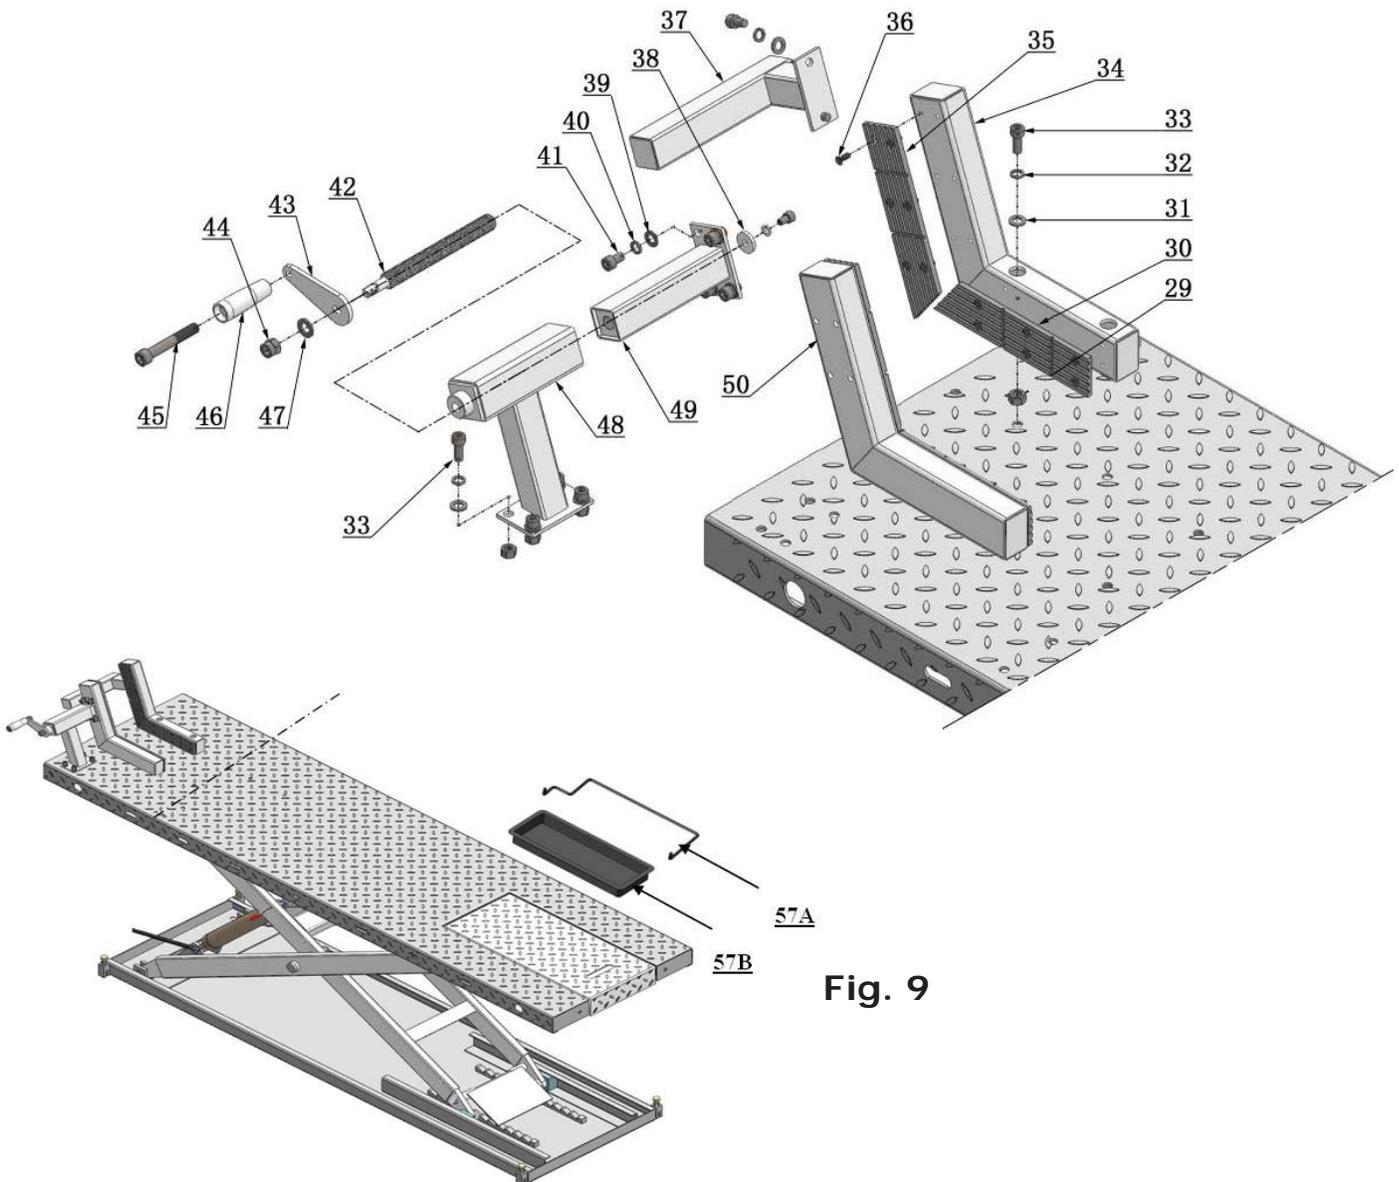

Fig. 9
E. Install clamping device. (See Fig. 9)